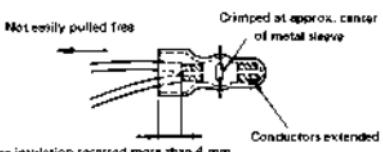

Fig. 7
- (5) Check the four points noted in Fig. 7